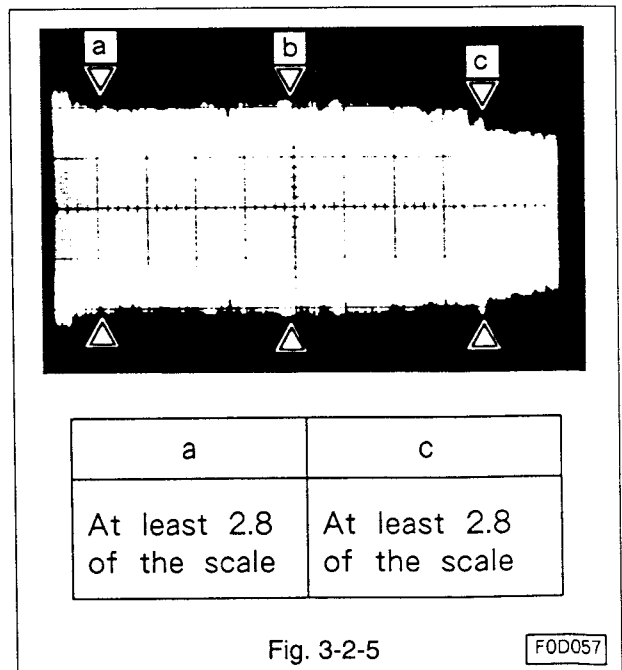

Fig. 3-2-5
(Refer to Fig. 3-2-5.)
- D. Adjust tracking so that the amplitude at the middle (around the point 'b') of the FM waveform is about 80% ('4' on the scale of the scope) of the maximum amplitude. Make certain that the amplitudes around the points 'a' and 'c' satisfy the requirements given in Fig. 3-2-5.